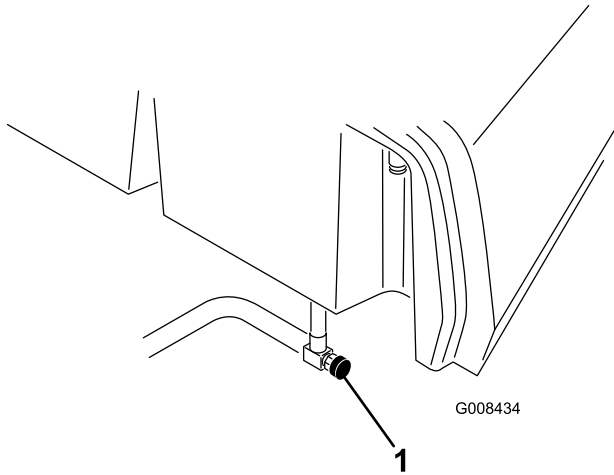

Figure 39
1. Close the fuel shutoff valve (Figure 39) below the fuel tank.